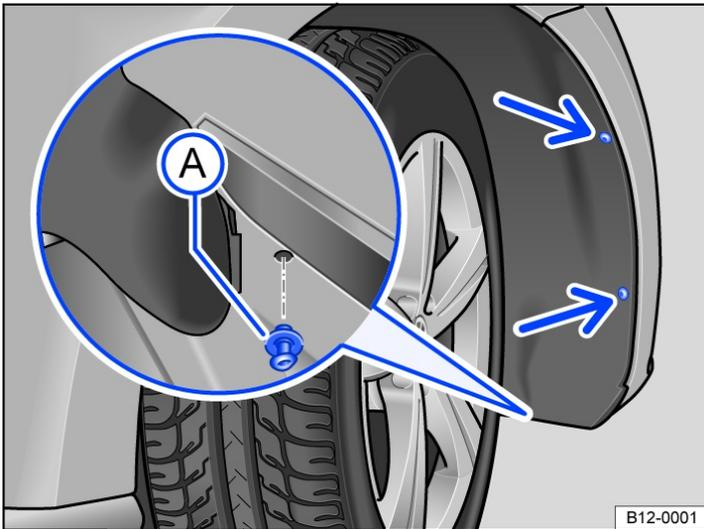

Fig. 1 In the front right wheel housing: unscrewing securing screws (arrows) and removing spreader rivet (A).
3. Unscrew the two securing screws on the wheel housing trim → Fig. 1 (arrows) with the screwdriver from the vehicle toolkit (→ Vehicle toolkit).